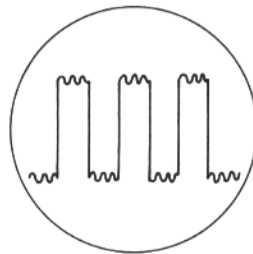

FIG 24
-fig 24 - Good signal, but ripple; the signal is modulated by main line frequency (RAC);